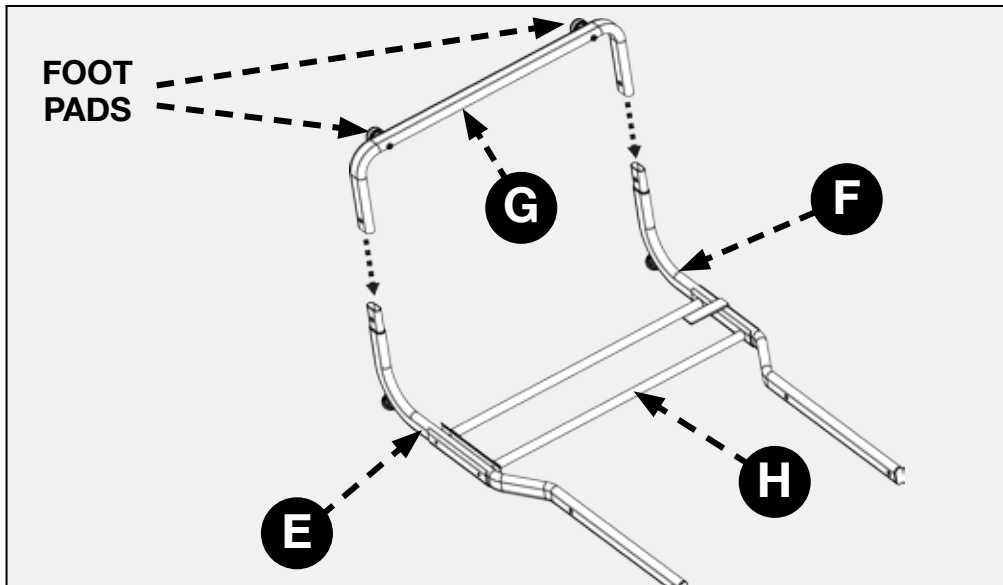

FIGURE 3
Place the cross connect assembly (H) between the support rod assemblies and connect the support rod connection tube (G) to the ends of the support rod assembly tubes as shown in Figure 3.
**NOTE:** Ensure foot pads are oriented as shown in Figure 3.